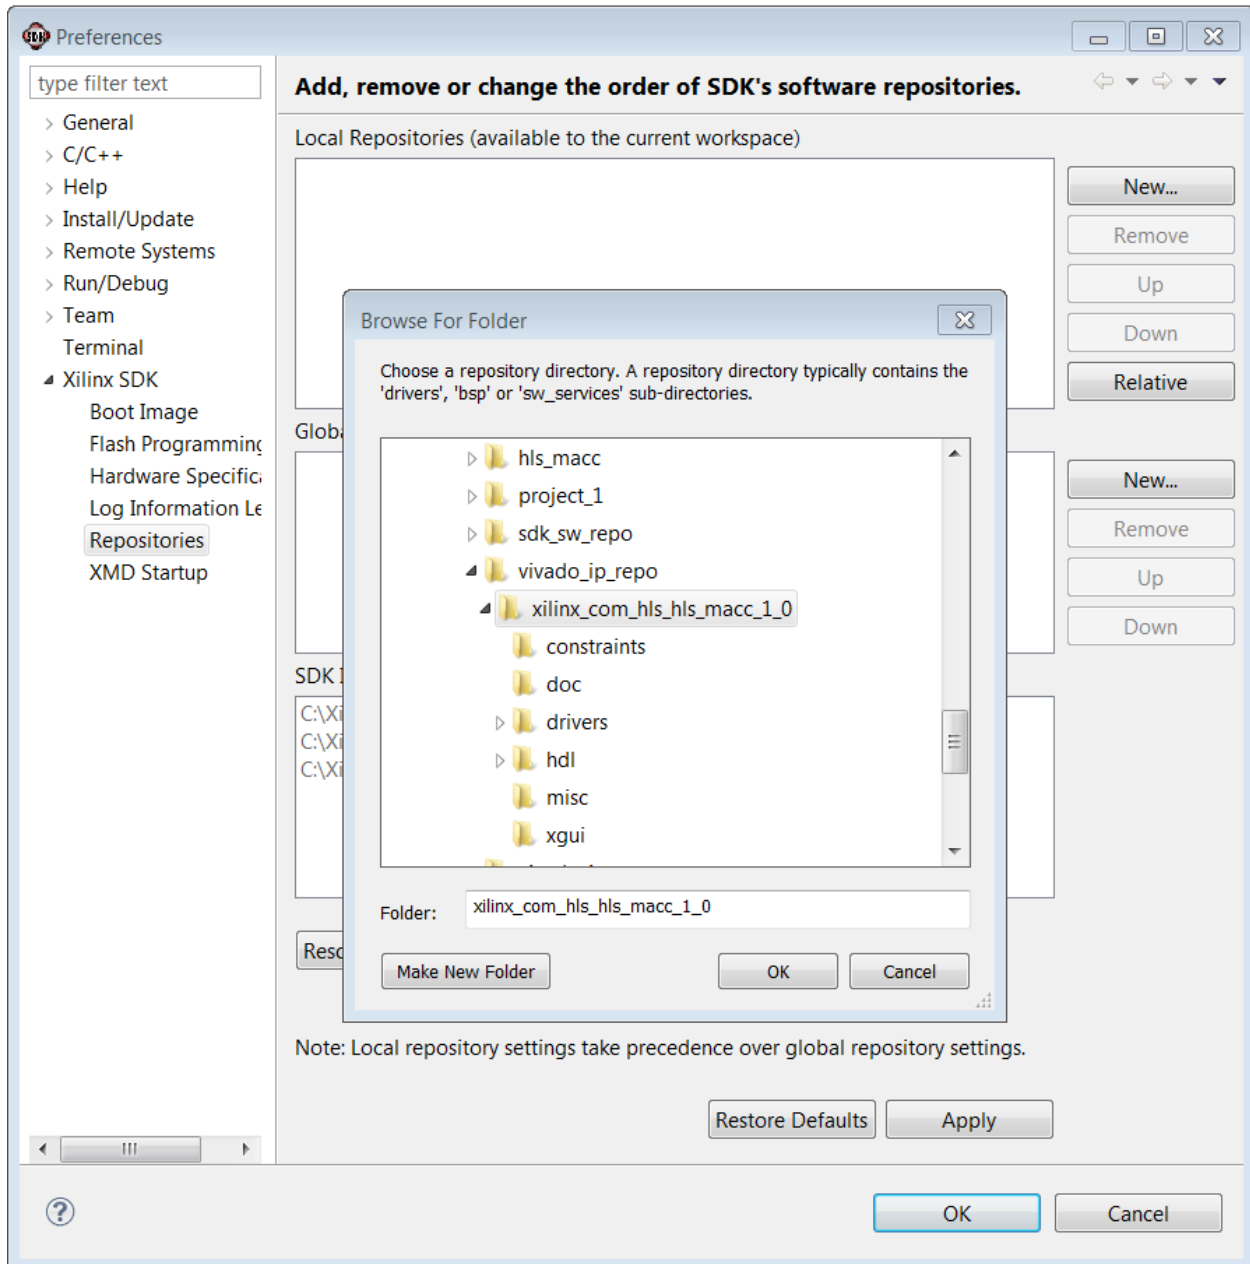

Figure 237: SDK Project Properties
- c) In the **Browse For Folder** dialog, navigate to the IP repository directory **vivado_ip_repo** directory and select the IP package **xilinx_com_hls_hls_macc_1_0** as shown in Figure 237.